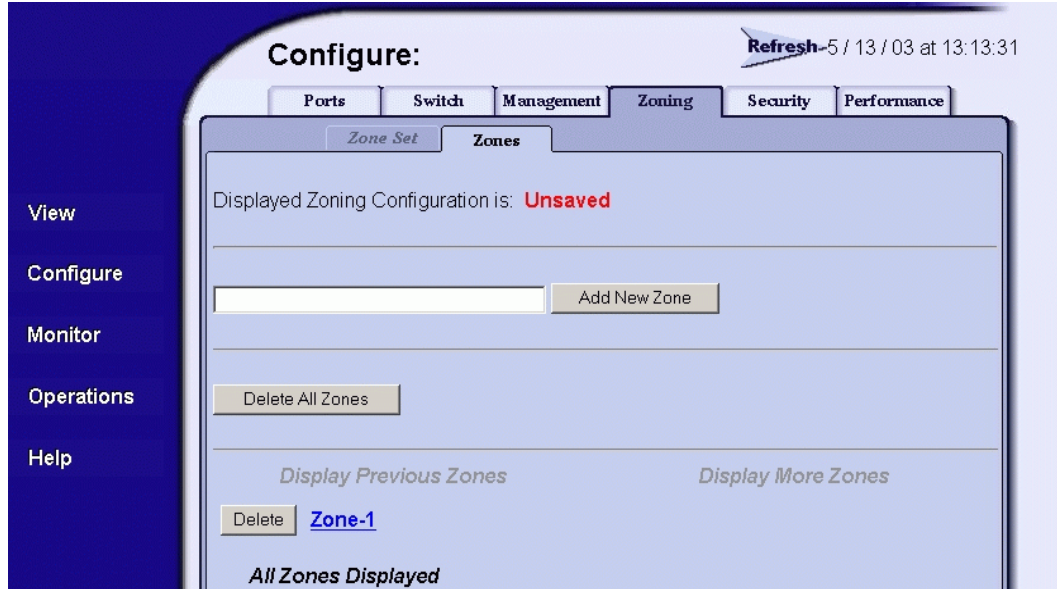

Figure 26: Zoning page—Zones tab
1. At the **Configure** panel, choose **Zoning > Zones** to display the **Zones** tab selected (Figure 26).